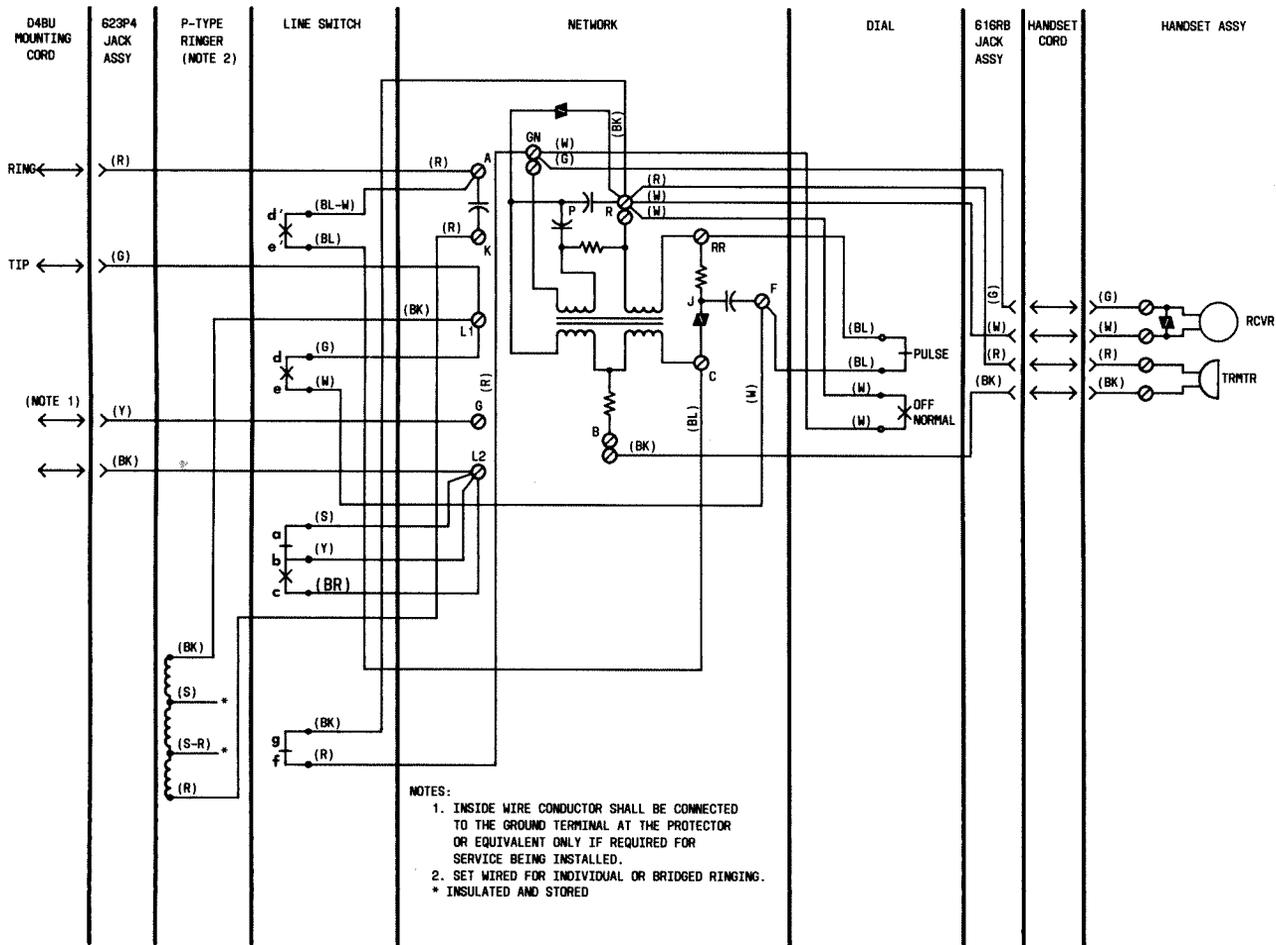

Fig. 4—951A1-03 Telephone Set, Connections
- (1) Refer to Table A for party line connections.
- (2) For adjustments and ringer cut off feature of the P-type ringer, refer to Section 501-259-101.
3.06 Connections for 1A KTS require no telephone set modifications and are wired the same as Fig. 4.